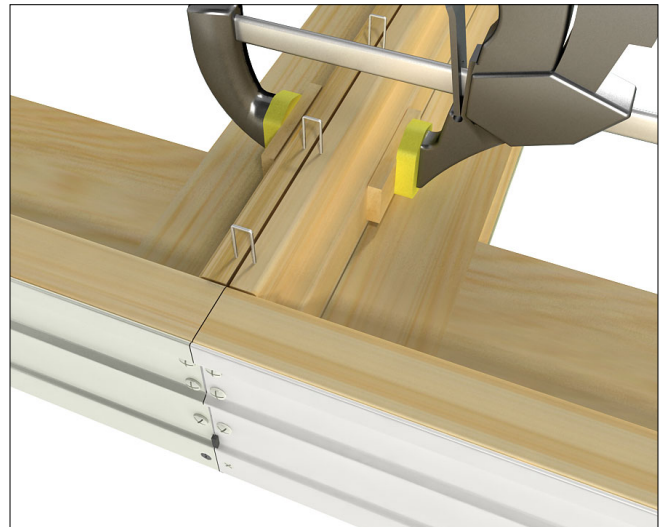

Figure 14
4. Apply third clamp if necessary and fasten transom sill and door head jamb with 1/2" x 1/2" 16 gauge staples spaced every 5" (127). See figure 14.